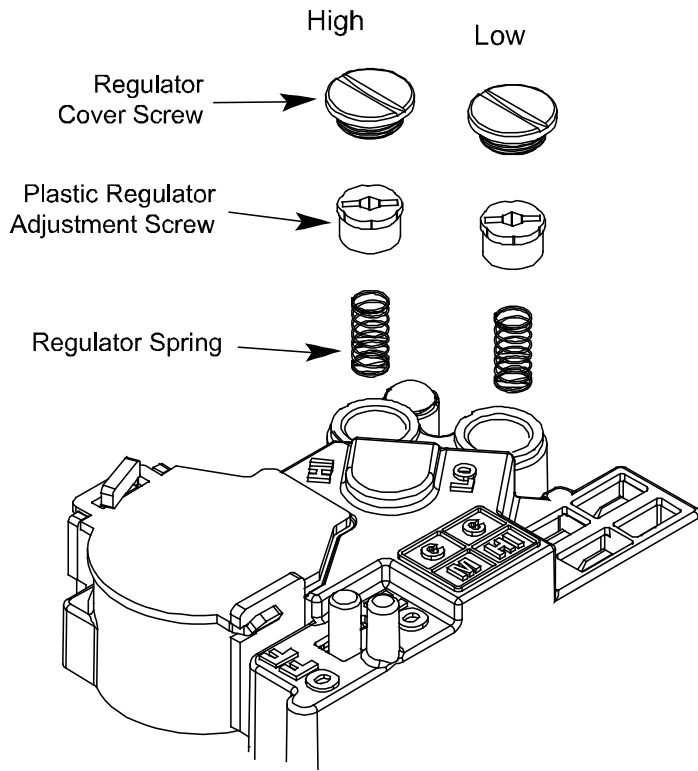

FIGURE 3
20. With the furnace operating in its Low-fire (W1) condition, the manifold pressure should be 2 ± 0.3 in. WC. If necessary, this pressure can be adjusted using the gas valve Low regulator adjustment screw located beneath the regulator cover screw (see Figure 3). Turn clockwise to increase and counterclockwise to decrease manifold pressure.
21. Readjust the room thermostat to obtain a second stage call for heat – High-fire (W2). The manifold pressure for the W2 condition should be 3.5 ± 0.3 in. WC. If necessary, this pressure can be adjusted using the gas valve High regulator adjustment screw located beneath the regulator cover screw (see Figure 3). Turn clockwise to increase and counterclockwise to decrease manifold pressure.